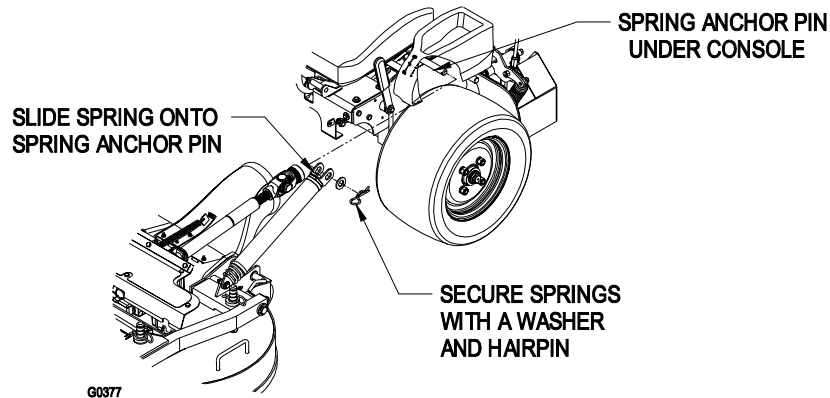

FIGURE 4
- g) Install springs onto the spring anchor pins under the left and right consoles and secure with a washer and hairpin. See Figure 4.
- Remove hairpins and washers at the top of the deck lift assist spring on each side of the unit. See Figure 4.